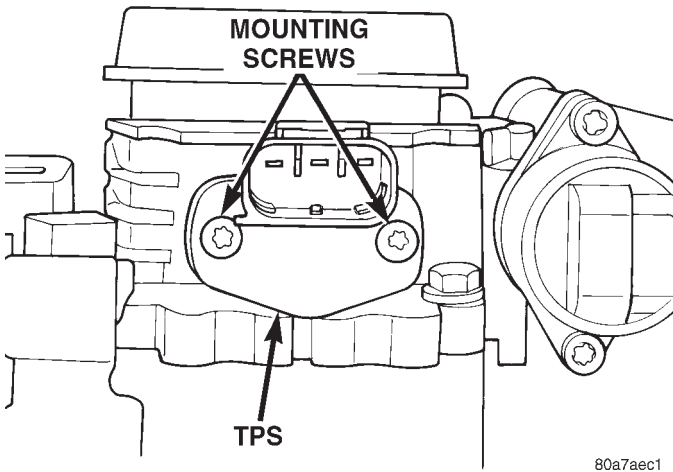

Fig. 69 TPS Mounting Screws—4.0L Engine
- (1) Disconnect TPS electrical connector.
- (2) Remove TPS mounting screws (Fig. 69).
- (3) Remove TPS.